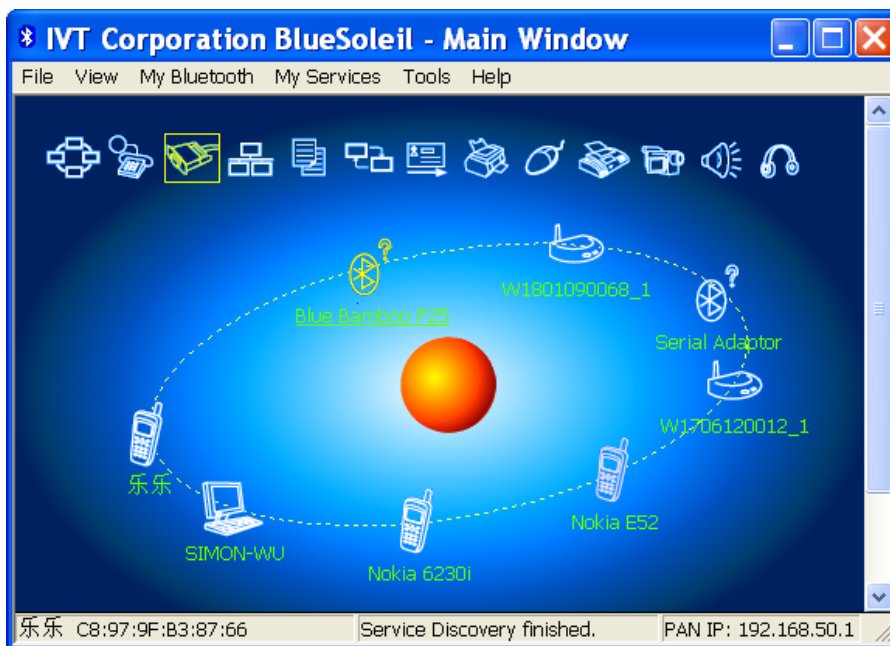

Figure 66
- c. Double click the Device Name of the printer (i.e. Blue Bamboo P25) to enable the **Bluetooth Serial Port Service** as shown in Figure 66.